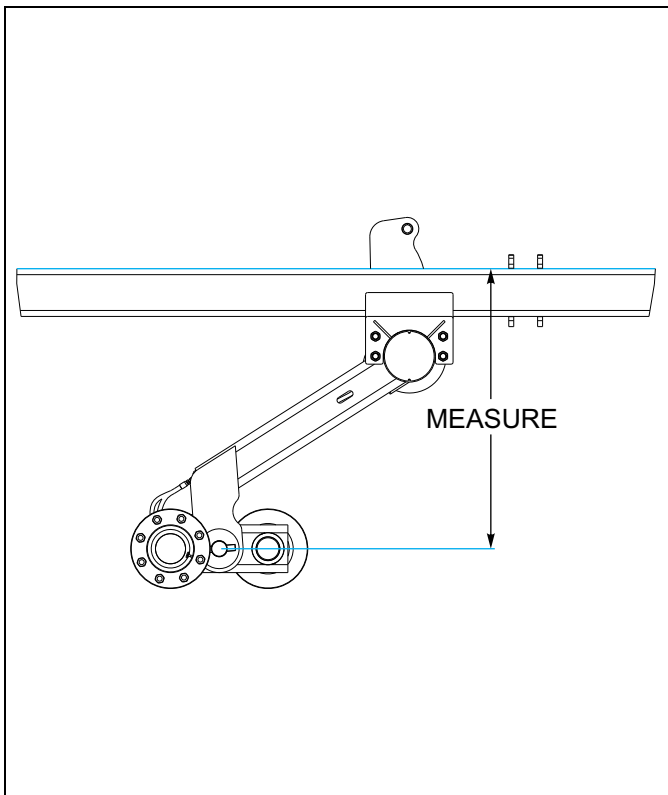

Figure 4-5: Leveling from Side to Side
3. Lay a straight edge across the top of the frame and measure from the top of the frame to the top of the walking beam spindle of both center frame axles. If the measurements are more than 1/4" different, the cylinders will need adjusted (See Figure 4-5.)